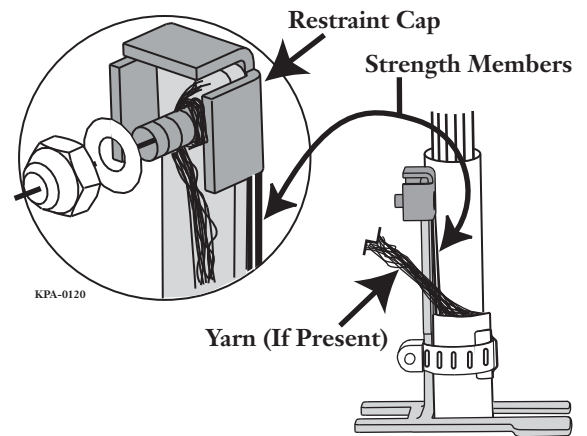

Figure 8 — Strength Member Restraint
Step 3: With the strength members behind the bracket, install a washer and a nut on the restraint cap threaded stud (Figure 8).